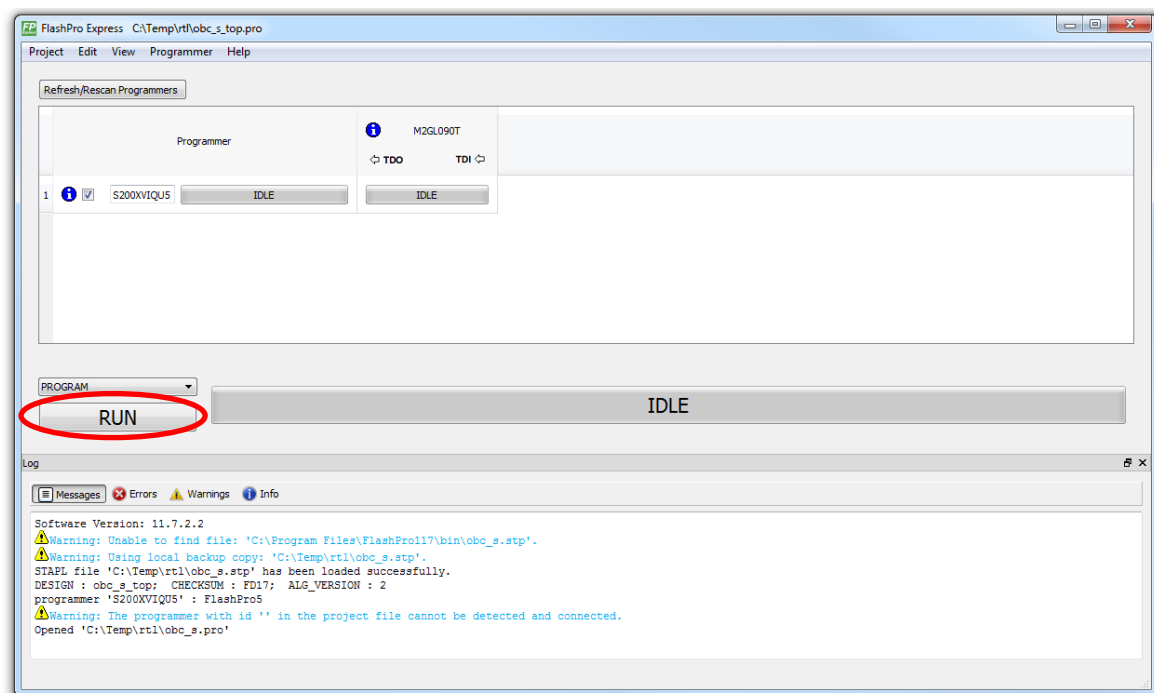

Figure 13-2 - View of FlashPro Express with project loaded.
5. Once the file has loaded (warnings might appear), click RUN (see Figure 13-2). Please note that the connected FlashPro5 programmed ID should be shown.